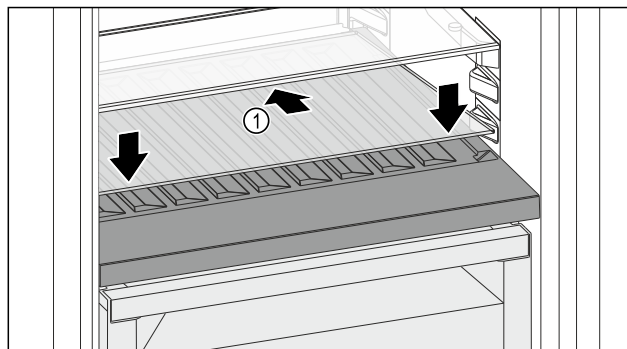

Fig. 147
- Place the glass shelf Fig. 147 (1) at an angle, sloping it downwards and backwards.
- Lower the glass shelf Fig. 147 (1) at the front.